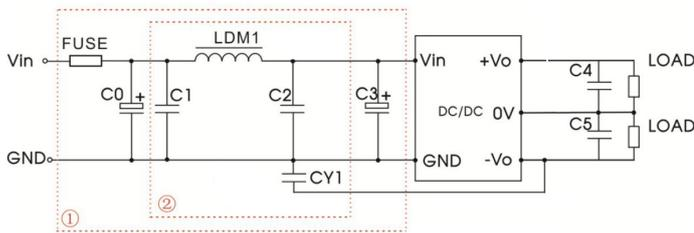

Fig.3
RE	CISPR32/EN55032 CLASS B (see Fig. 3-② for recommended circuit)
Notes: For EMC tests we use Part ① in Fig. 3 for immunity and part ② for emissions test. Selecting based on needs.